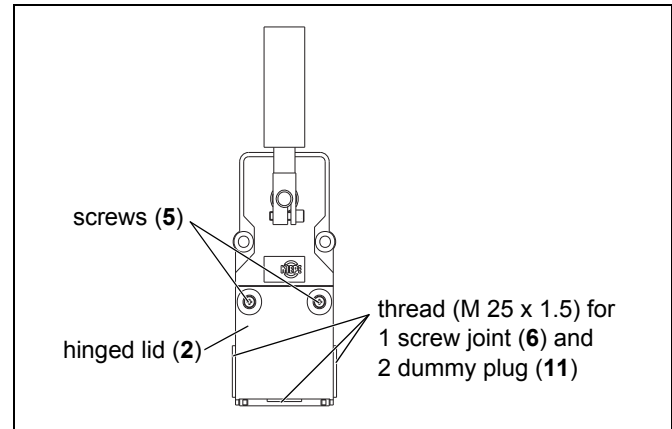

Fig. 5-7: Placing misalignment switch in operation
1. Before commissioning of the misalignment switch, make certain the seal is secure (see Fig. 5-7):
- Check to ensure that the screws (5) of the hinged lid (2) are tightened to a **tightening torque of 0.4 Nm**.
- Check to ensure that the screw joint (6) of the are tightened to a **tightening torque of XX Nm**.
- Check that the dummy plug (11) are firmly tightened.